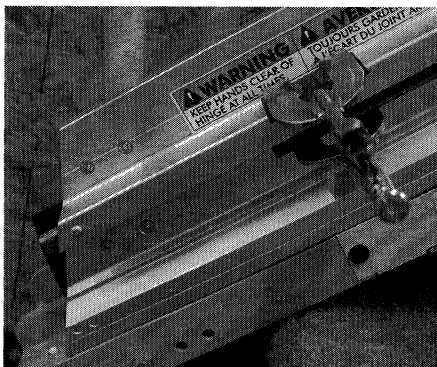

Fig. 4
3. Securely clamp gear rack approximately 6" above fold joint (Fig. 4).